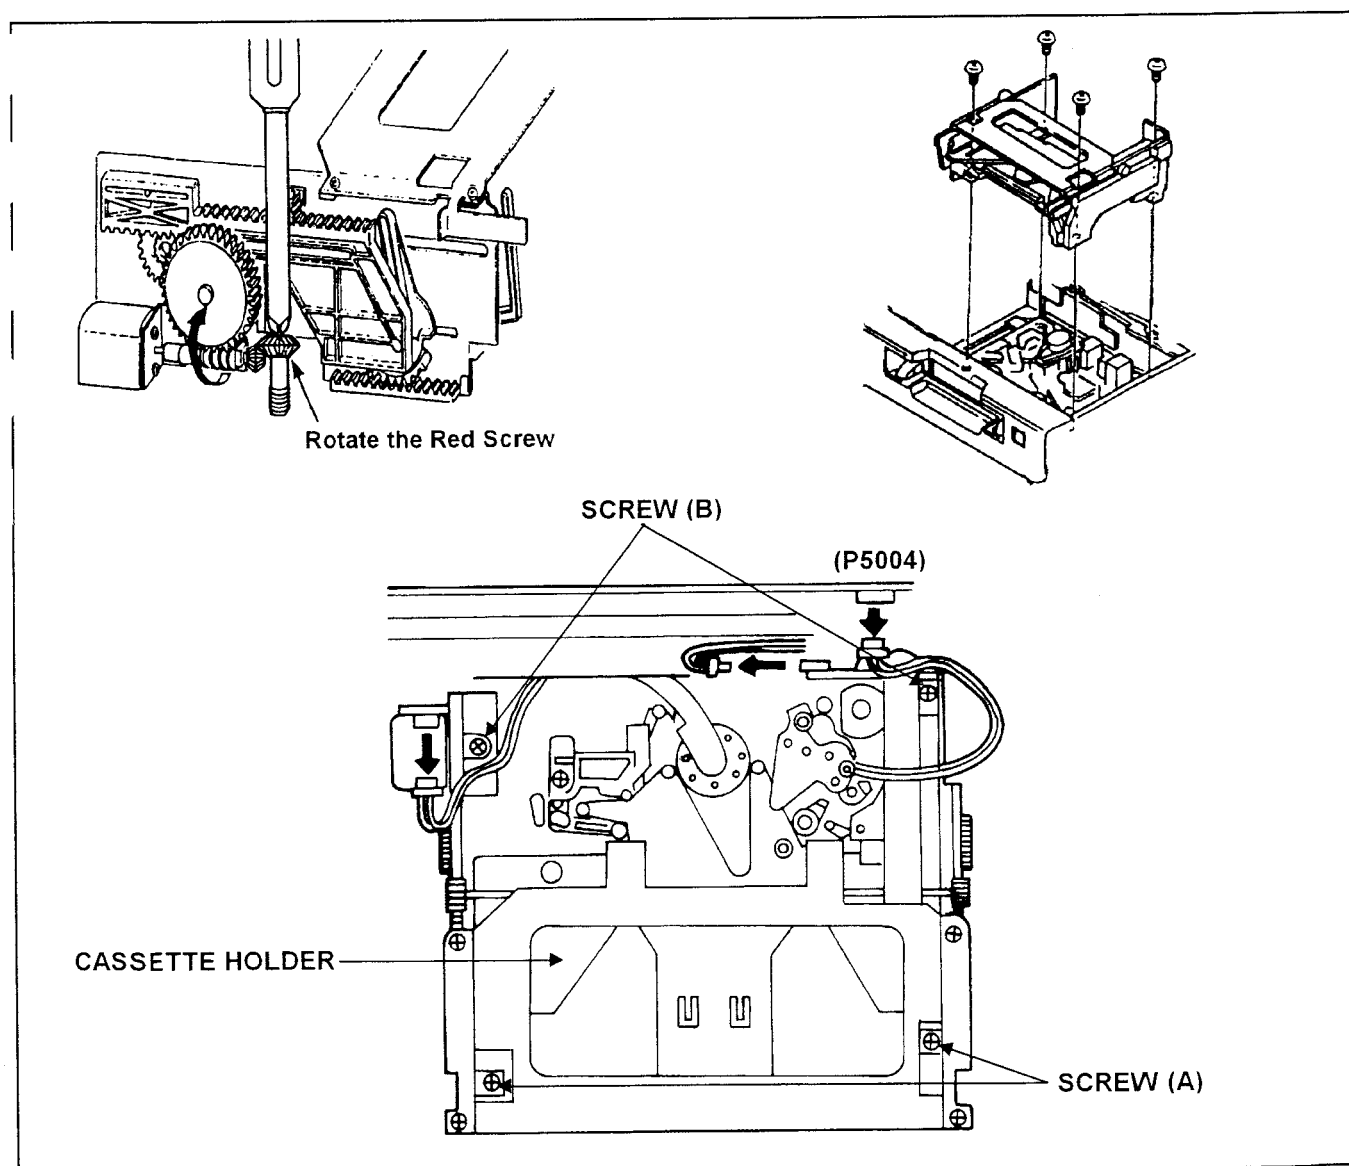

Figure 7
2. Disconnect the 2 connectors at Front Loading motor part and mechanism interconnection board as shown in Figure 7.
3. Disconnect the connector P5004 for A/C Head cable on the RF AMP P.C.Board as shown in Figure 7.
4. Rotate the red plastic screw in front of the worm gear of the cassette down motor counterclockwise by a Philips-head screw-driver pushing the screw to move the Cassette Holder Unit the 2 screws (A) can be removal position as shown in Figure 7.
5. Unscrew the 4 screws (A) and (B), then remove the Front Loading Unit.